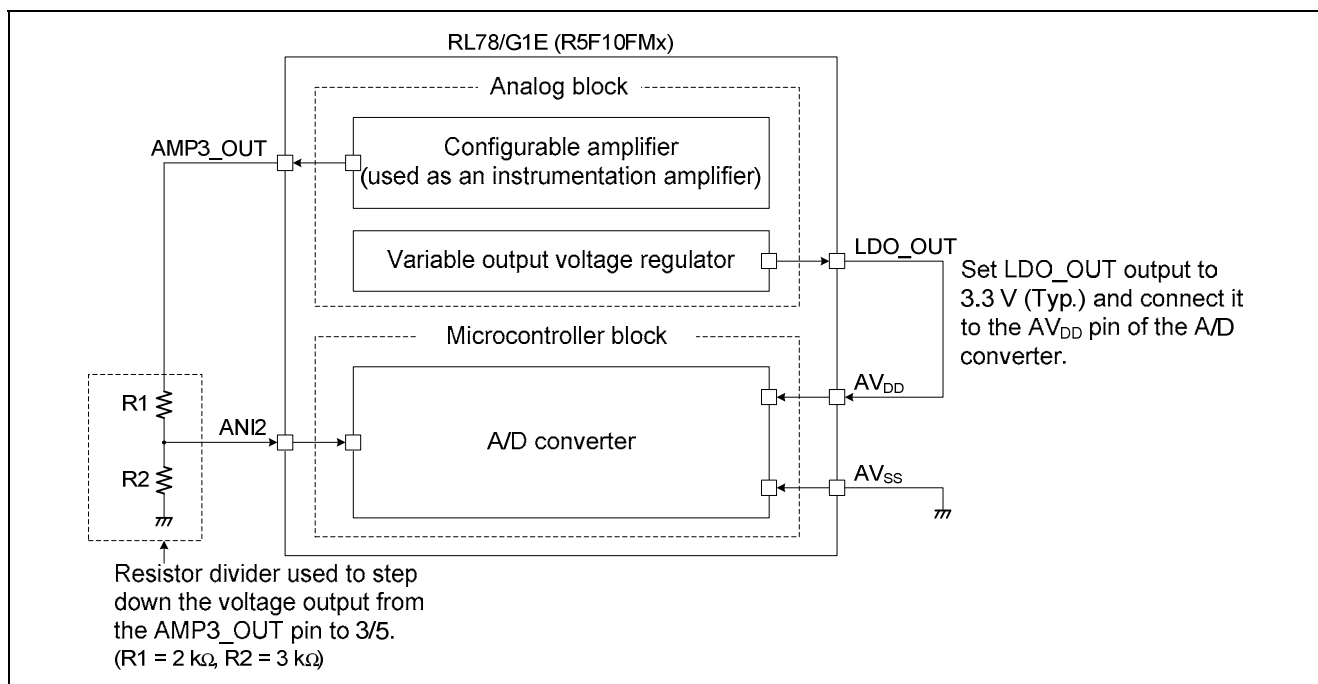

Figure 5.8 Connection Between Configurable Amplifier (Used As an Instrumentation Amplifier) and A/D Converter
Figure 5.8 shows the connection between the configurable amplifier (used as an instrumentation amplifier) and the A/D converter incorporated in the RL78/G1E (R5F10FMx).
Because the analog voltage output from the AMP3_OUT pin is divided by using the resistor divider and then input to the ANI2 pin, the AMP3_OUT pin voltage (V) expressed as shown in the formula below (see **Figure 5.8**):